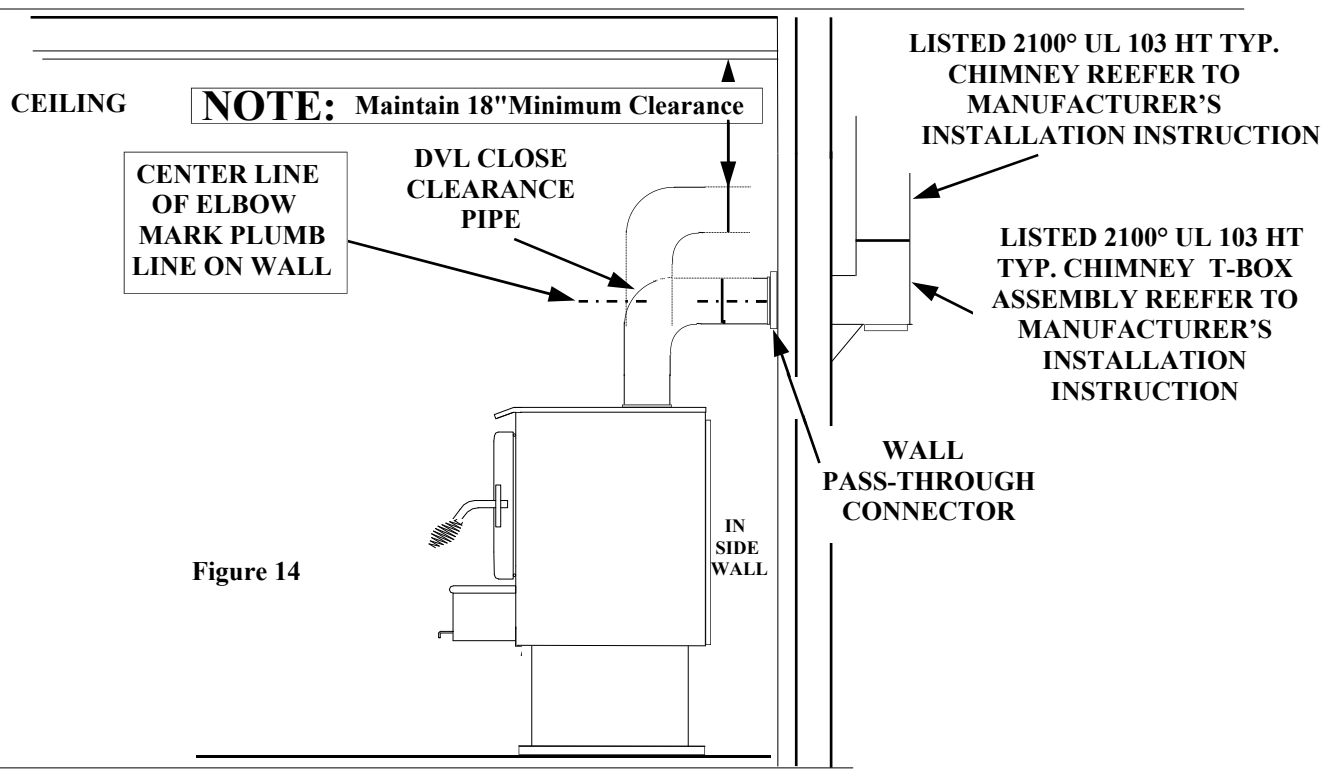

Figure 14
(See Page 22, Figure 14).
3. Measure up so there will be at least 1/4" rise per foot of horizontal connector pipe, maintaining clearances to the ceiling as noted in (Page 21, Figure 14). This will give you the center of the hole for the chimney penetration.
5. Connect the DVL close clearance pipe to the tee-box per manufacturer’s instructions, DVL close clearance pipe is to be connected with (3) sheet metal screws or rivets to connector collar on heater (See Page 22, Figure 14).